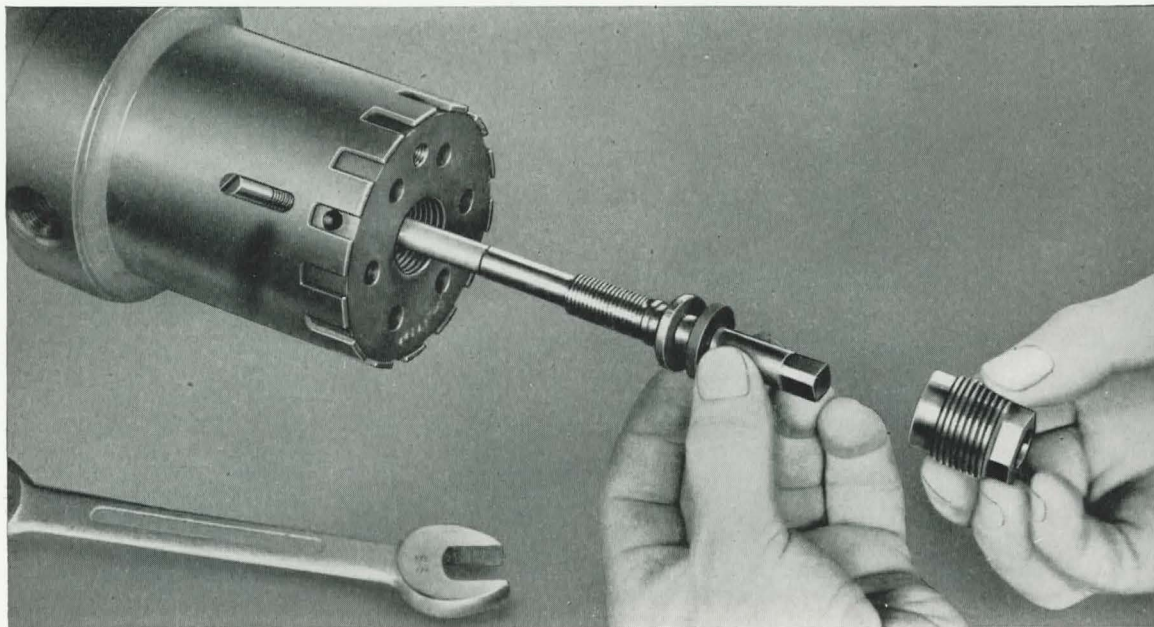

Figure 50
- c. Remove the gland nut and the needle valve, **Figure 50**.
- (1) Remove the locking screw.
- (2) Remove the gland nut, the needle valve, and the gland rings.